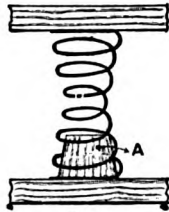
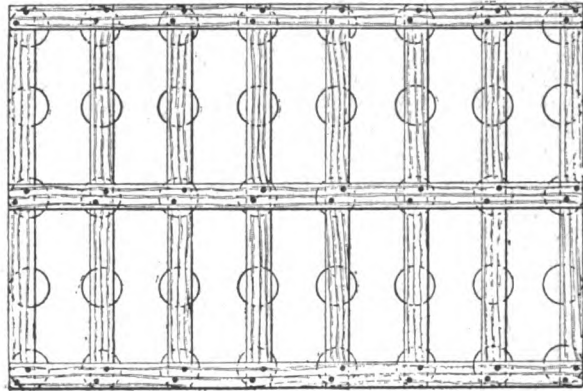

FIG. 1
FIG. 2
**Setting Out Archimedeian Spiral for Flower Bed.**—In planting a circular bed with plants in the form of an archimedeian spiral of three revolutions, the spiral may be set out as follows. Divide the circle into a number of equal parts as A to L (Fig. 1) and draw radii as shown. Divide one of the radii into three times the number of parts by which the circumference is divided. Now, starting the curve from the centre, on B mark one of the divisions of the radius, on C two, on D three, on E four, and so on, until the outside is reached; then trace the curve through the points. Mark the width of the bed either on the inside or outside of the curve and draw a parallel line which would enclose the
bottom of the bedstead may be railed or corded, or plain wood may be sunk flush with the top of the rails. The pillars P (Fig. 1) are 1½ in. square and stop-chamfered; S (Fig. 2) is ½ in. by 1 in., and T is sawn out of 1-in. stuff. The length of the bedstead will depend on the requirements. Canary wood, enamelled pale blue, may be used for the construction of the bedstead. Fig. 3 is a section of the top rail of the head (Fig. 1) and shows the tenoning of P. For those who possess a lathe, turned pillars might be more suitable, but square pillars, though taking more time to make, are less common.
spotted portion (Fig. 1). A spiral that would perhaps be suitable for the particular purpose mentioned above may be drawn as follows. In the centre of the bed fix a cylinder of wood A (Figs. 2 and 3) with a circumference equal to one-third of the radius of the large circle. Drive a spike B into the centre of the cylinder and take a parallel piece of wood C, in which bore a hole to fit on the spike B. Mortise a block of wood D (Figs. 2 and 3) to slide on C; then connect the back of the block by a cord E (Fig. 3) to the cylinder. Place a marking point at F and revolve the wooden arm. The string, kept tight, winds on the cylinder and draws in the block, causing the point F to describe the spiral.
**Spring Mattress.**—A very satisfactory spring mattress can be constructed of two rectangular wood frames, these being made of clean pine 3 in. wide by  $\frac{1}{2}$  in. thick. Between these frames are fixed, at equal distances apart, about three dozen 8-in. hard springs; these are secured with spring staples. In order that the frames may work straight and parallel, all the springs round the four sides have a cone-shaped turned wood guide block A (Fig. 1) fixed to the rails by screws and working inside the spiral springs; these are fixed as in Fig. 2, so that these turned blocks A are alternately at the top and